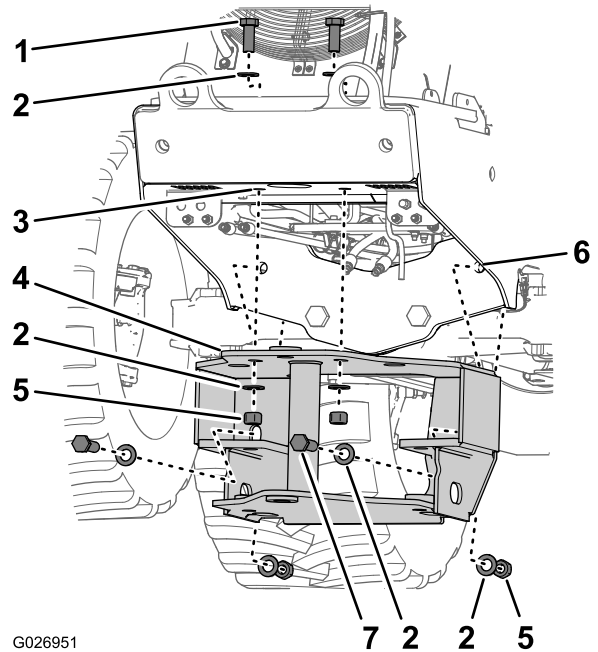
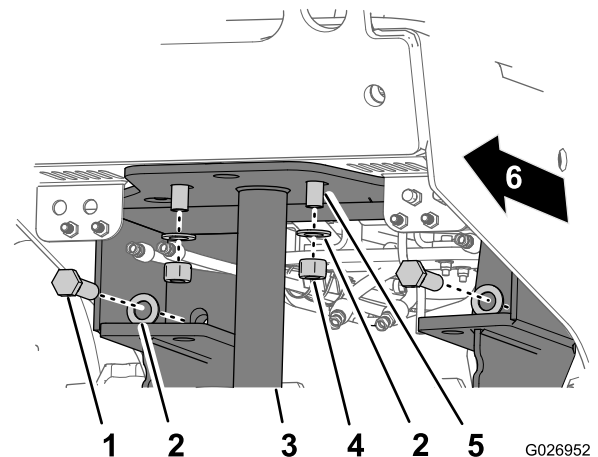
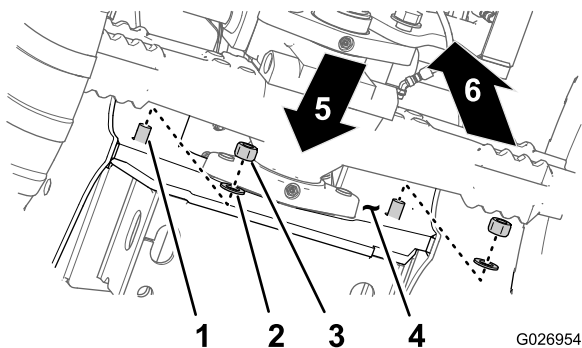
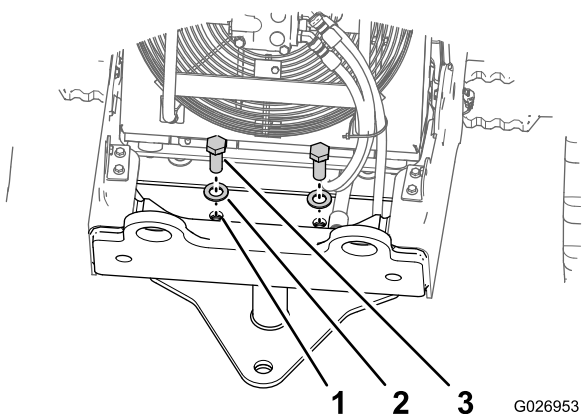

Figure 8
Figure 9
Figure 10
Figure 11
2. Align the 2 horizontal 25 mm (1 inch) holes in the mounting frame with the 2 horizontal holes in the front axle support (Figure 8).
3. Align the 2 vertical 25 mm (1 inch) holes in the mounting frame with the 2 vertical in the bottom frame plate of the machine (Figure 8).
4. Assemble 2 bolts (1 x 3-1/2 inch), 2 washers (1 inch), and 2 locknuts (1 inch) through the horizontal holes in the mounting frame and the front axle support (Figure 8, Figure 9, and Figure 10).
5. Assemble 2 bolts (1 x 2-1/2 inch), 2 washers (1 inch), and 2 locknuts (1 inch) through the vertical holes in the mounting frame and the bottom frame plate (Figure 9 and Figure 11).